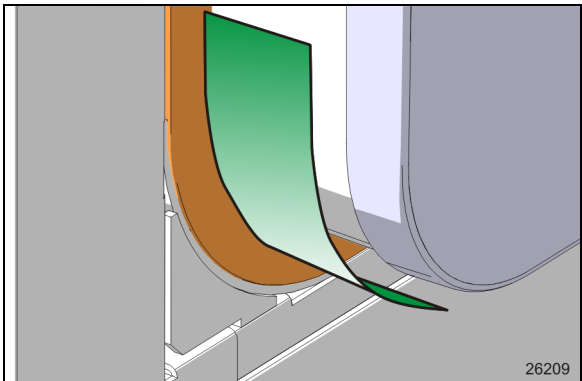

FIGURE 20: PLASTIC SHEET -WIPER SEAL PROTECTION
12. Protect the wiper seal by inserting a polypropylene plastic sheet between the room and the wiper seal. Do this on both bottom corners (Figure 20). This will distribute the compression of the wiper seal on a wider zone and prevent the room exterior panel corner from binding or pulling on the wiper seal.